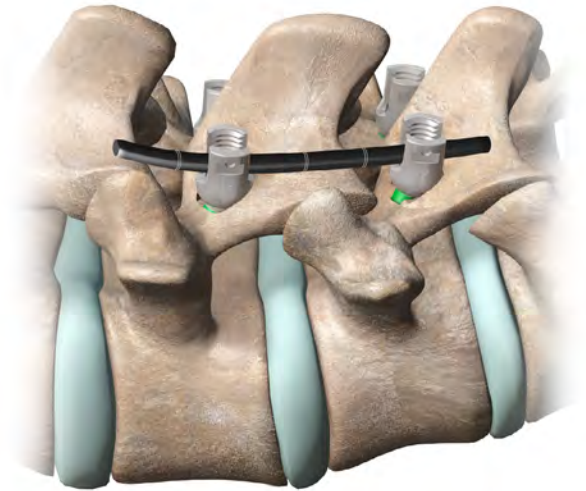

Fig. 17
**NOTE:** Both rod materials are compatible with standard Titanium Firebird Spinal Fixation System implants. **(Fig. 17)**